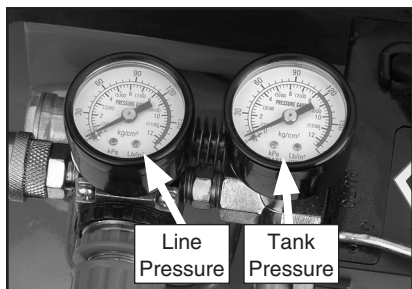

Figure 6. G0466 Pressure gauges.
- Check the tank pressure gauge (Figures 6 and 7) to see that the tank pressure climbs to approximately 115-120 PSI (around 8 BAR) and turns **OFF**.